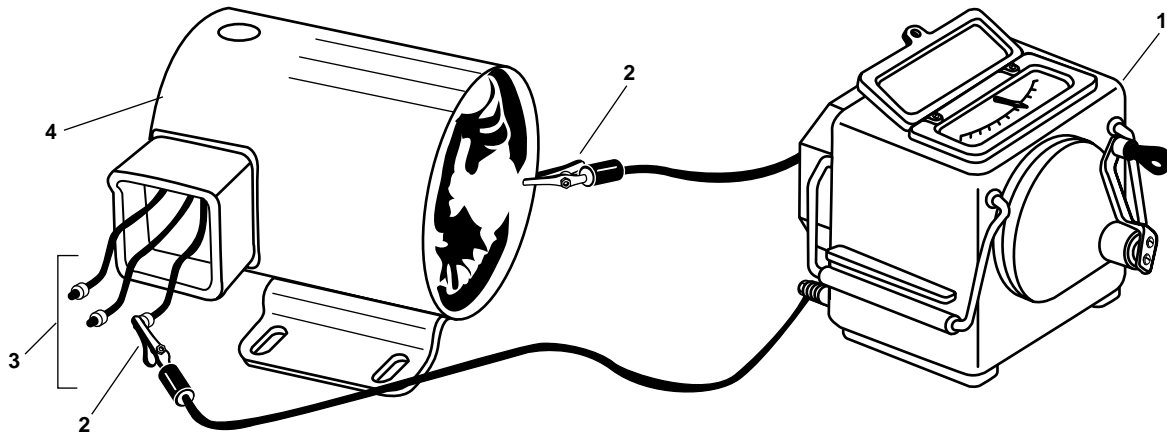

Figure 2. Ohmmeter and Electric Motor Housing
2. Using an ohmmeter (figure 2, item 1), connect one ohmmeter test lead (figure 2, item 2) to a motor winding lead (figure 2, item 3), and the other ohmmeter test lead (figure 2, item 2) to the electric motor housing (figure 2, item 4).
3. Test the electric motor windings (figure 2, item 3) for continuity between the electric motor windings and the electric motor housing (figure 2, item 4) (FM 55-509).
4. Perform step 3 for each of the motor winding leads (figure 2, item 3).